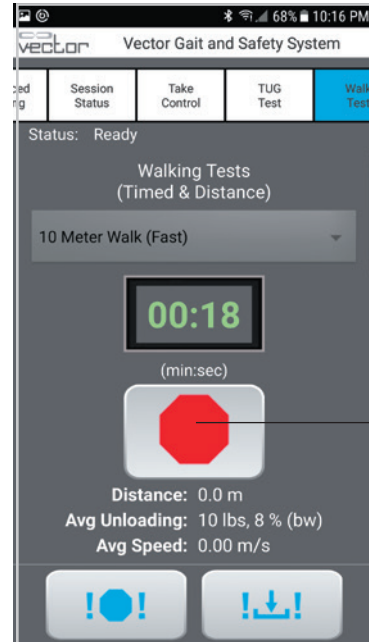

Figure 9-23: TUG Stop Screen
8. The test will automatically stop at the selected distance or time. To cancel the test at any time, use the Stop button. See Figure 9-23.